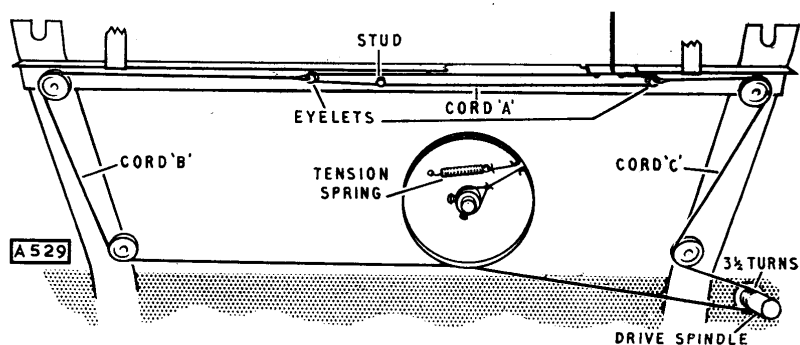

Fig. 5. The tuning drive.
Three separate cords are arranged as shown in Fig. 5 and a total length of about 6 feet should be allowed. The drive drum is shown in the position it should occupy when the gang is closed. First tie cord A to the stud, forming a loop which should measure  $6\frac{3}{4}$  inches from centre to centre of the eyelets. Attach cord B to drive drum bush and at a distance of 22 inches, tie to left-hand eyelet within loop (cord A). Pass cord B round drum and pulleys as shown. Tie a further cord (C) to right-hand eyelet in loop, pass it over the pulleys, make  $3\frac{1}{2}$  turns clockwise round drive spindle and return it to the drum, attaching the end of the cord to the tension spring as shown. Attach the cursor, adjusting its position so that the left-hand edge of the cursor carriage coincides with the centre of the extreme right-hand hole in the guide bar when the gang is at maximum.